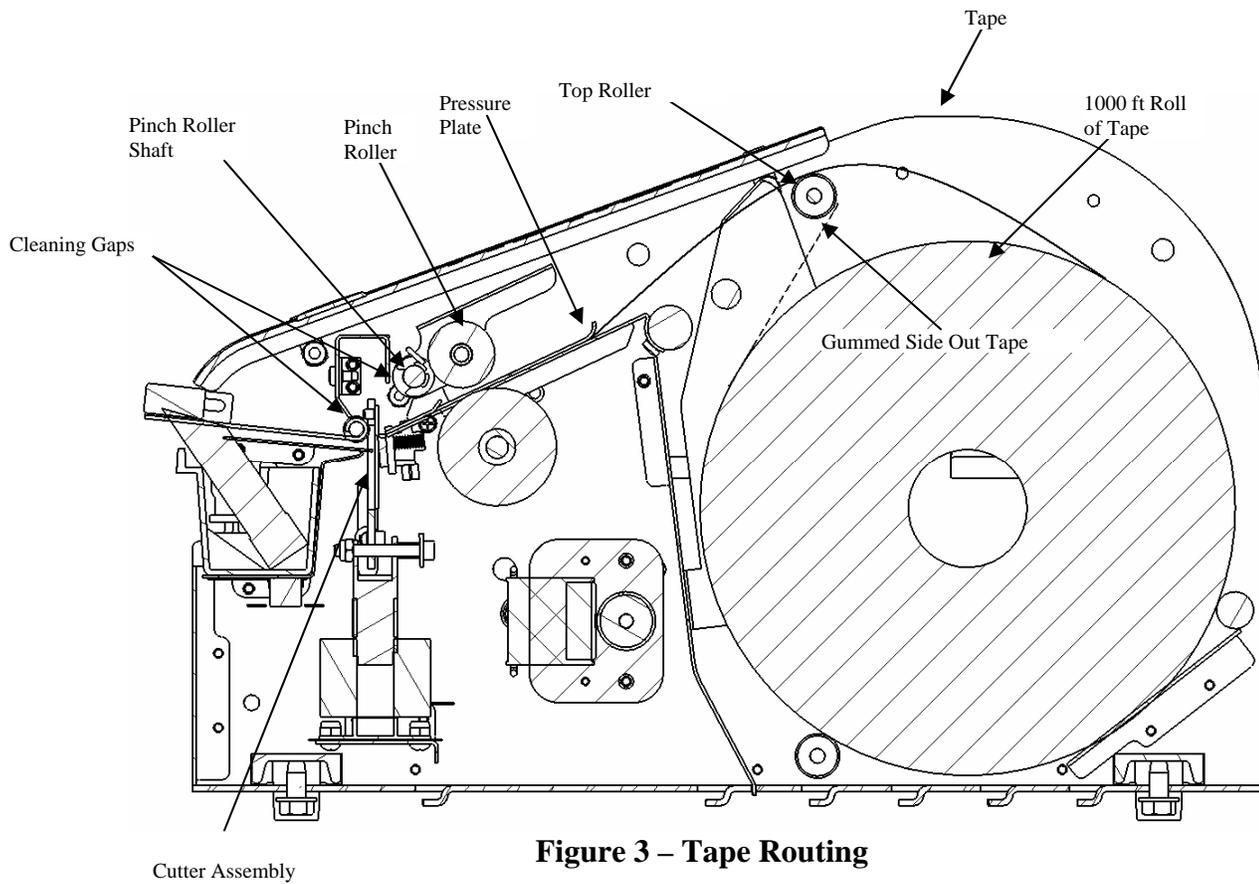

Figure 3 – Tape Routing
6. Feed the tape, gummed side down, over the top roller, under the tape guide flaps, and then under the pinch roller, see Figure 3.
| 3. Is the tape routed correctly? | Route the tape according to Figure 3 (p. 7). |